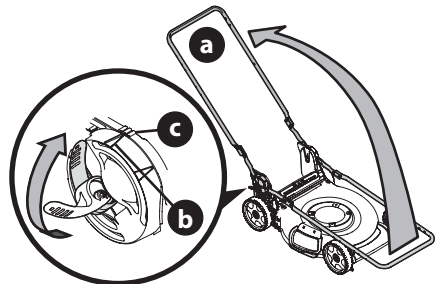

Figure 13
5. While stabilizing mower so it doesn't move, lift the upper handle up (a) (Figure 13). Do not crimp blade or drive control cables while lifting the handle up.
6. When lifting the upper handle ensure the position indicator (b) aligns with one of three handle positions (c). See inset, Figure 13.
7. Lock the two handle release levers. See inset, Figure 13.